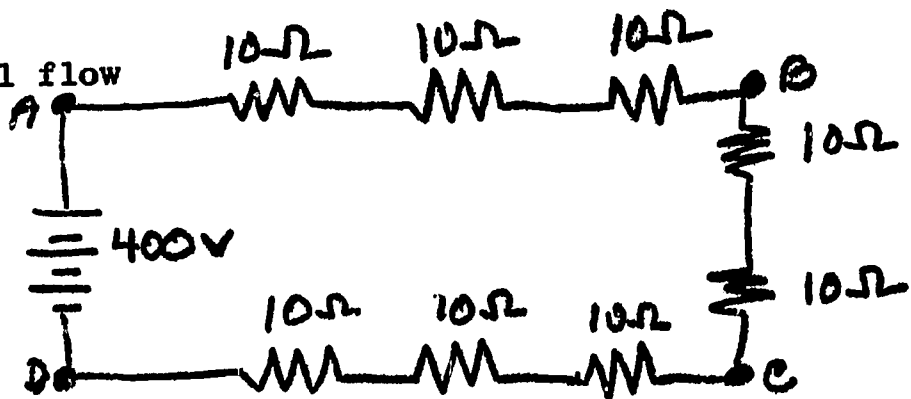

Fig. 19
*In Fig. 19, current will flow
*In Fig. 19, B will be: